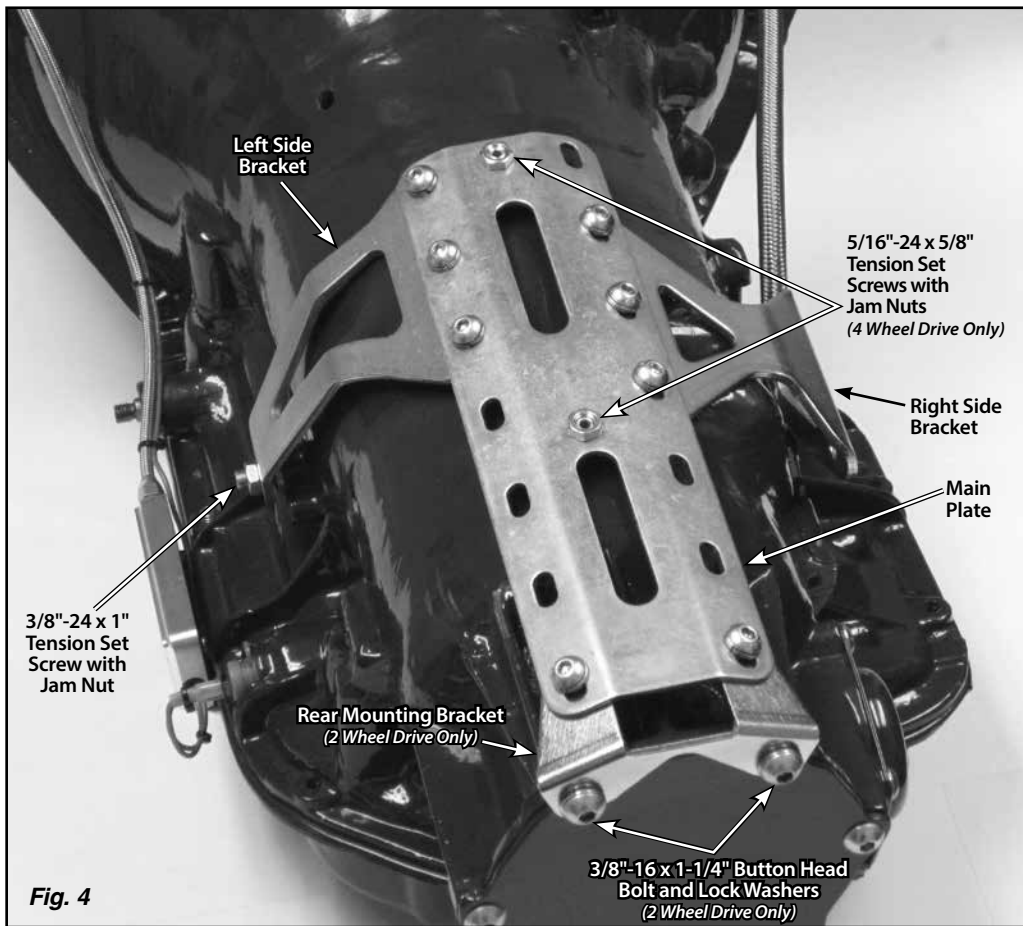

Fig. 4
Step 5: (2 Wheel Drive Transmissions) Remove the top two tail housing bolts from the transmission. Install the mounting bracket assembly onto the transmission by first installing two 3/8"-16 x 1-1/4" button head bolts with lock washers through the rear mounting bracket and into the transmission at the tail housing. **Fig. 4**
(4 Wheel Drive Transmissions) Start the 5/16"-24 x 5/8" tension set screws into the tension set screw holes at the front and in the center of the shifter main plate. Set the mounting bracket assembly into place on top of the transmission. **Fig. 4**